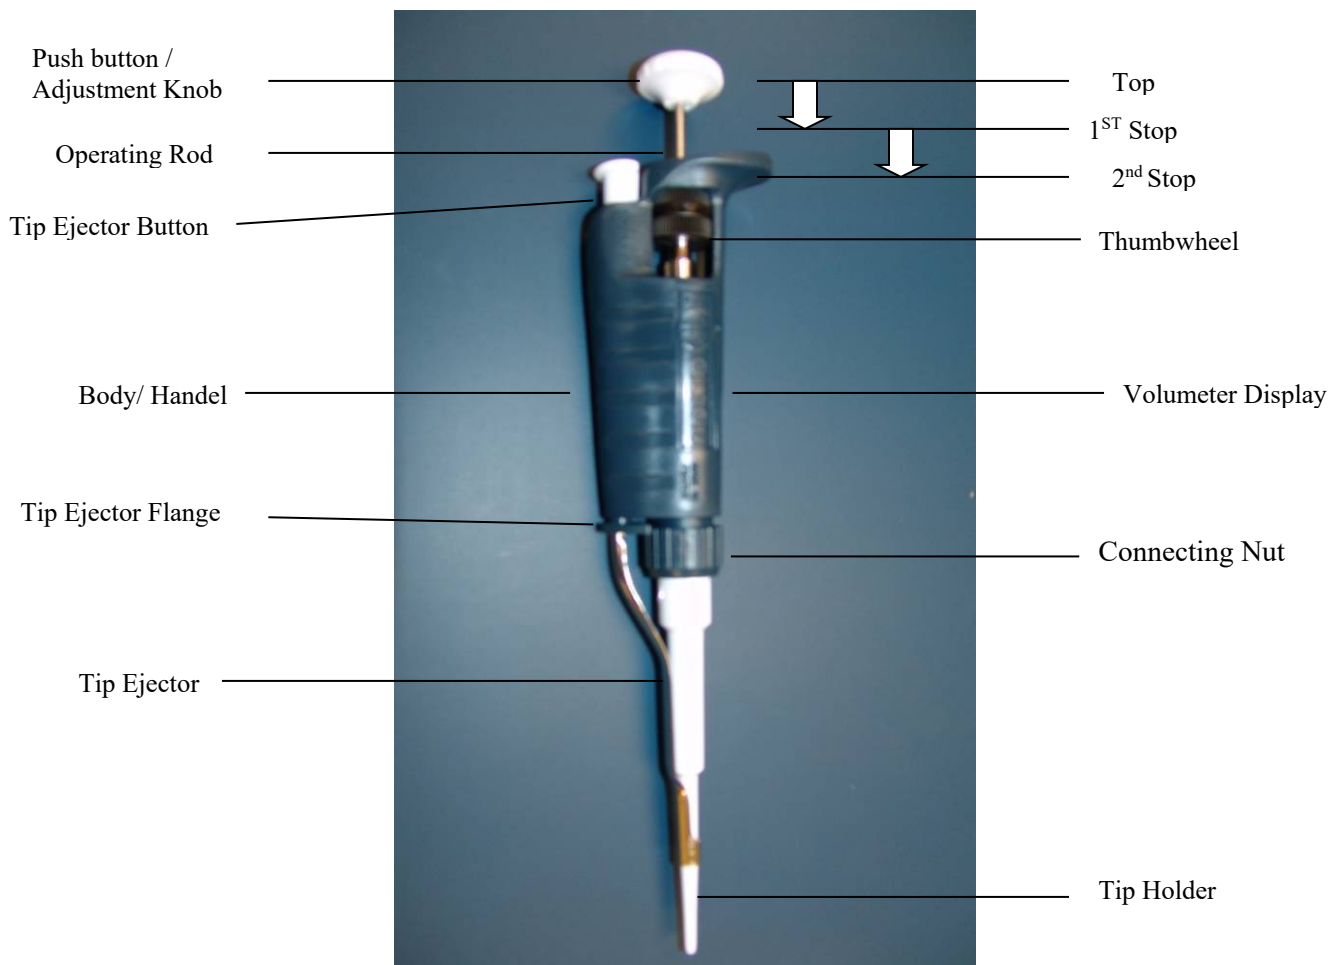

Figure 1: Pipetman®
- 8.1.6. Aspirate by pressing the push button to the first stop (Figure 1). Make sure that you operate the pushbutton slowly and smoothly.
- 9.1. Figure 1: Pipetman®,